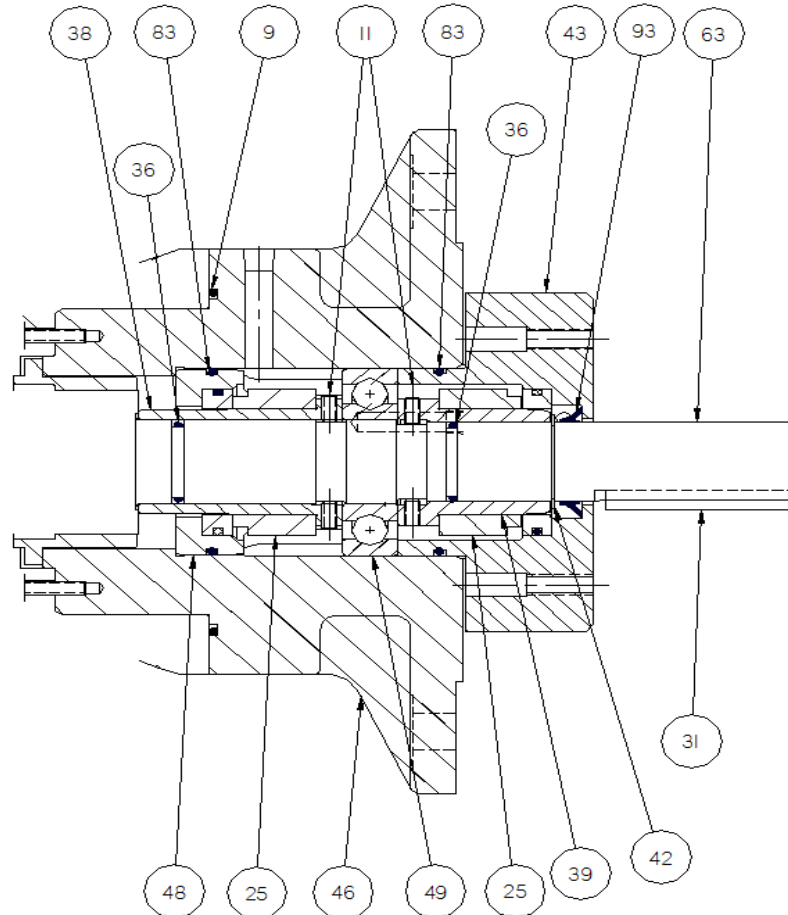

Figure 2
H.3 DISASSEMBLY PROCEDURES: See Figure 2 on next page and assembly drawing.
6. Remove bolts (47) and bearing retainer (43). If bearing retainer is difficult to remove, it can be jacked off using (2) 3.5" long 3/8 hex head bolts supplied in major and minor kits. Remove tubes (85) with O-rings (40) from bearing retainer (43) or inboard cover (46). Remove O-rings (85) from tubes (40). Remove seal stationary seat from bearing retainer (43) and O-rings from seal stationary seat. Remove O-ring (83) from bearing retainer (43).
7. Remove assembled power rotor (63) from pump. (Helix end of power rotor can be hammered with a dead blow hammer to dislodge power rotor if necessary.) Removal of power rotor (63) includes removal of Truarc ring (42), ball bearing (49), seal sleeves (38 and 39) with seals (25) O-rings (36) and seal seat adapter (48).
8. Disassemble power rotor (63) as follows: (See assembly drawing and Figure 2)